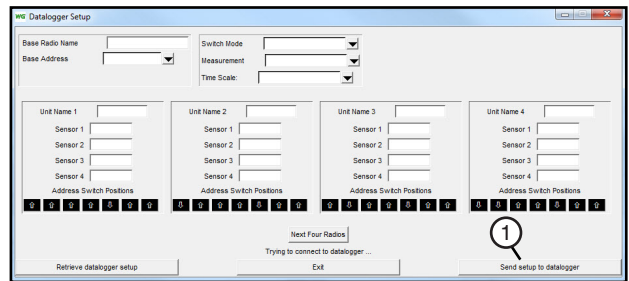

Figure 30-2 1. Send to Datalogger button
- l. Optional - Enter a Base Radio Name for the datalogger. The name can have up to 14 characters. See figure 30-2.
- n. Press the Back Space key 2 times.
- p. The RTU ID must be 2 characters, 00 through 99 located at the end of the 16 character name field, example "01". Alpha characters are not allowed. No other datalogger can have the same RTU ID. See figure 30-2.